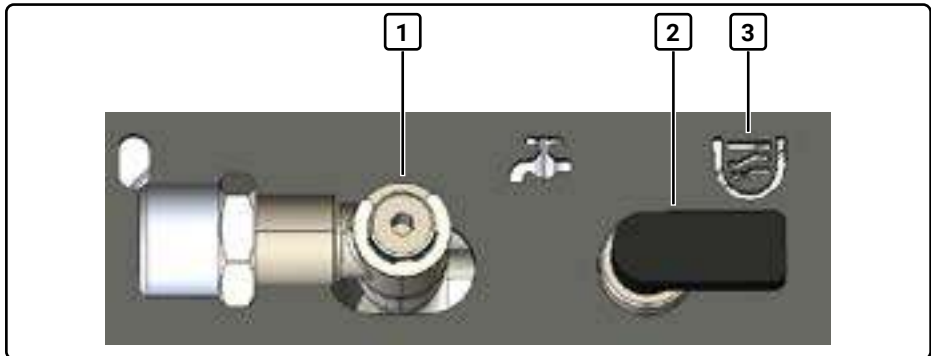

Fig. 4 View from below: Rotary valve in water tank mode position
1. Move the rotary valve (2, Fig. 4) into the water tank mode position (3, Fig. 4). The valve points towards the outside of the machine.